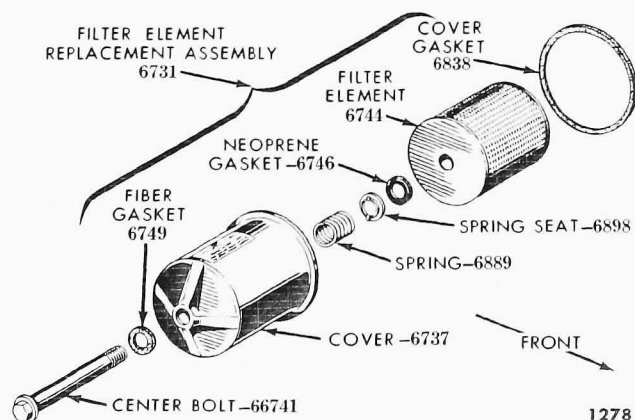

Fig. 17—Oil Filter—Disassembled
(2) **DISASSEMBLY.** Remove the filter element, gasket, washer, and spring from the housing. Remove the center bolt and gasket. The filter is shown disassembled in fig. 17.